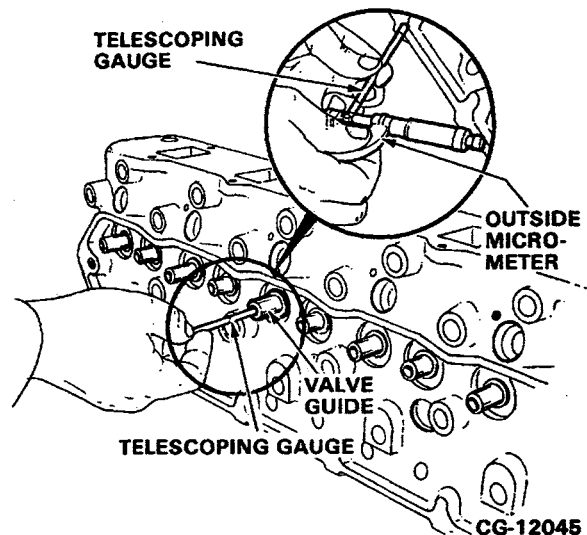

Figure 4.34. Measure Valve Guide I.D.
2. Measure each valve guide using a telescoping gauge and outside micrometer as shown in Figure 4.34.